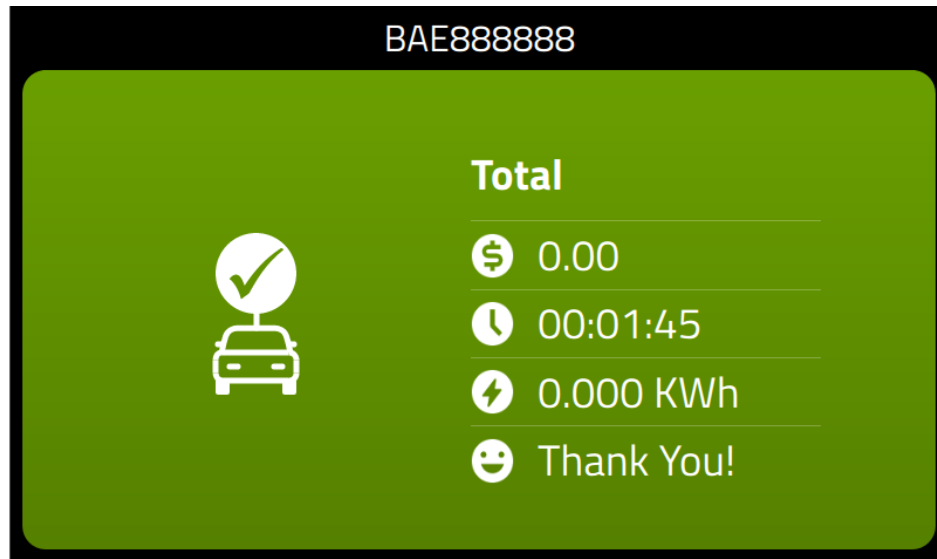

Fig. 60 – Charge Complete
- Fig. 60 shows a charge completed page